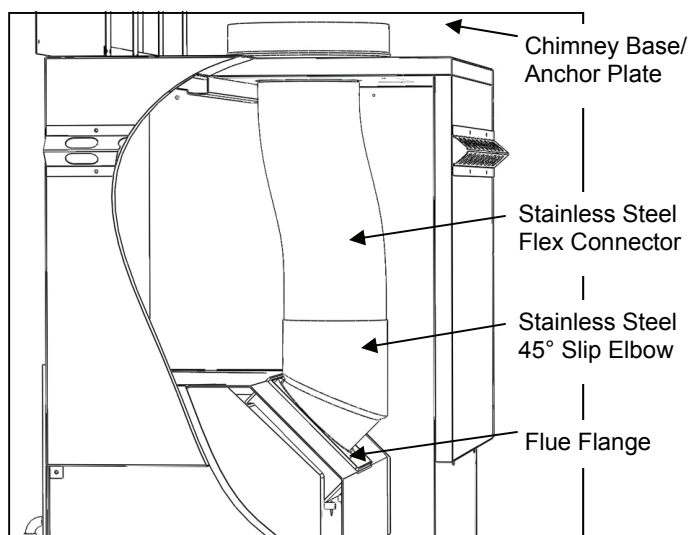

FIG.11 Cutaway View Showing Flue Connection
4. Reach up through the flue opening and pull down on the stainless steel 45° slip connector elbow using the handle provided in the elbow. Make sure the connector elbow is full engaged in the insert flue flange. See FIG. 11.